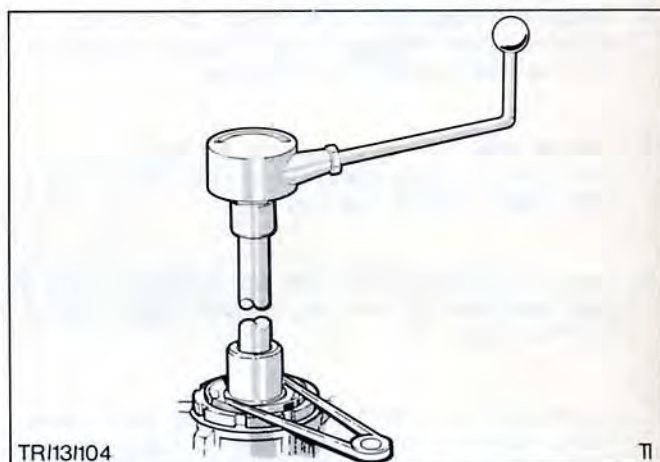

Fig.25. Check steering gear turning torque using Service tool 15 041.
13. Adjust upper bearing preload by screwing in steering shaft adjuster, screw in until a turning torque of 0,3 to 0,8 Nm (3,0 to 8 kgf cm - 0,3 to 1,7 lbf.in) is measured on preload gauge tool No. 15 041 Fig.25.